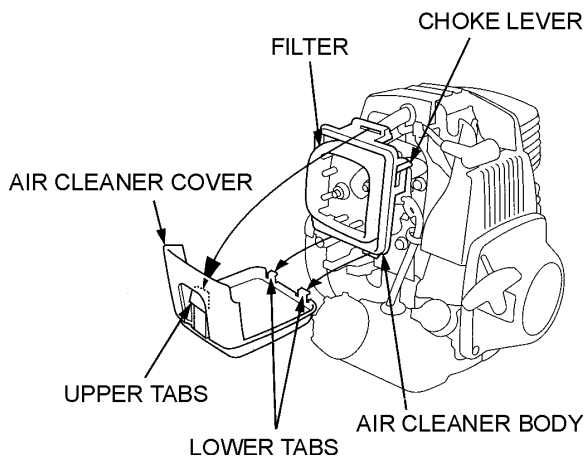

Figure 18. Air Cleaner
3. Press the latch tab on the top of the air cleaner cover (Figure 18), and remove the cover. Check the filter to be sure that it is clean and in good condition.